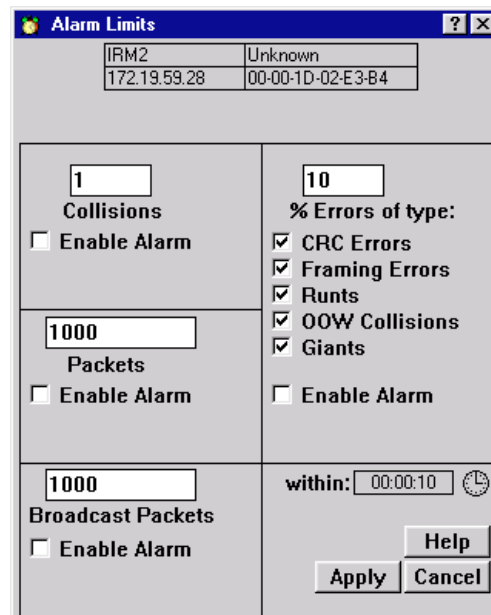

Figure 5-1. Repeater Alarm Limits Window
2. Drag down to **Alarm Limits...** and release. The Repeater Alarm Limits window, Figure 5-1, will appear.